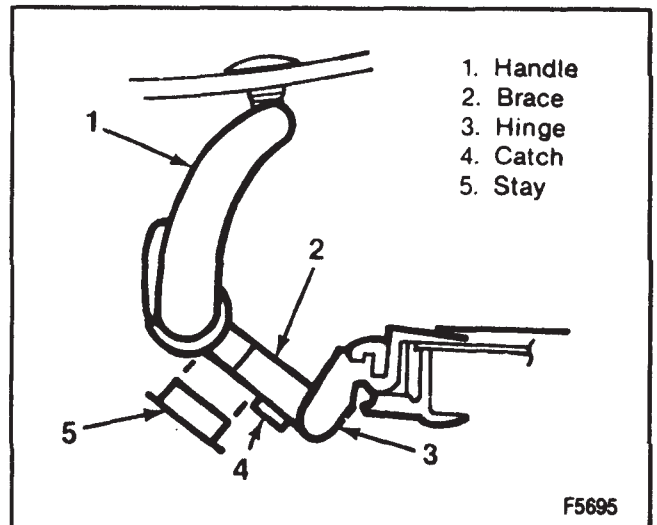

Figure 24—Handle Catch and Stay
1. Stays from the handle brace (figure 24).
2. Brace from the upper frame hinge by sliding catches up (figure 24).
- Slide the catches up, set the brace on the hinge pin, then release the catches (figure 24).
4. Handle brace stays (figure 24).